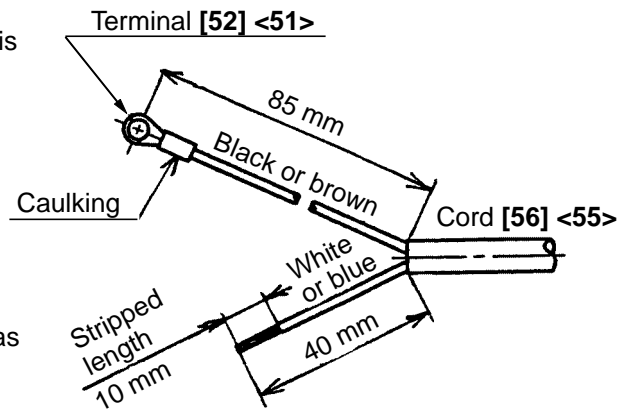

Fig. 3
- 1) Remove the standard cord (cord armor is integrally molded) according to the procedure of 8-1 (3).
- 2) Strip the coating on the internal wire of the Cord [56] <55> about 10 mm from the tip and crimp the Terminal [52] <51> to the brown or black internal wire as shown in Fig. 3.